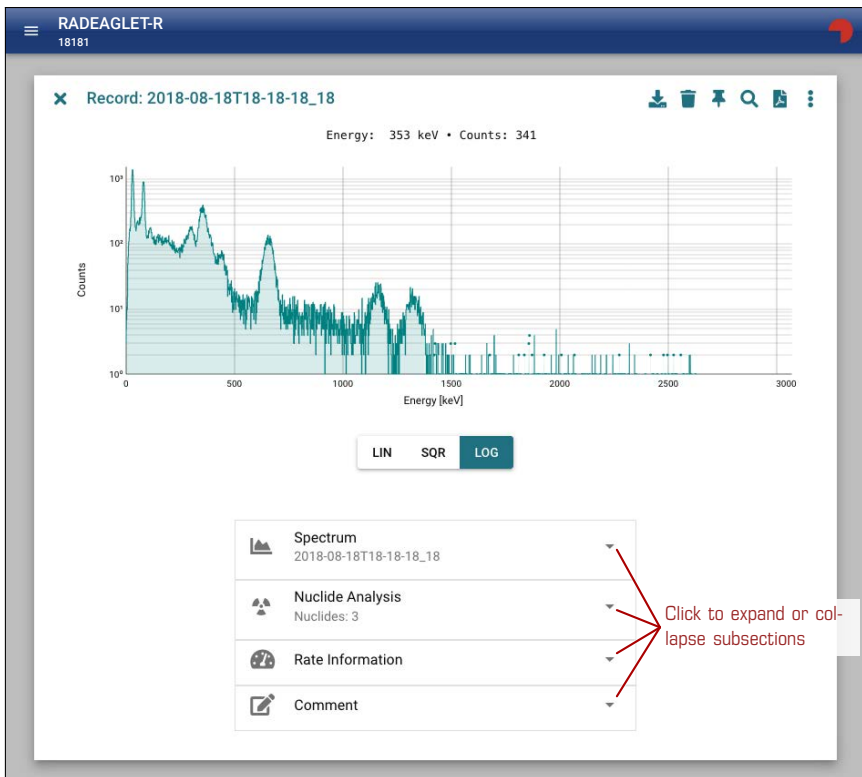
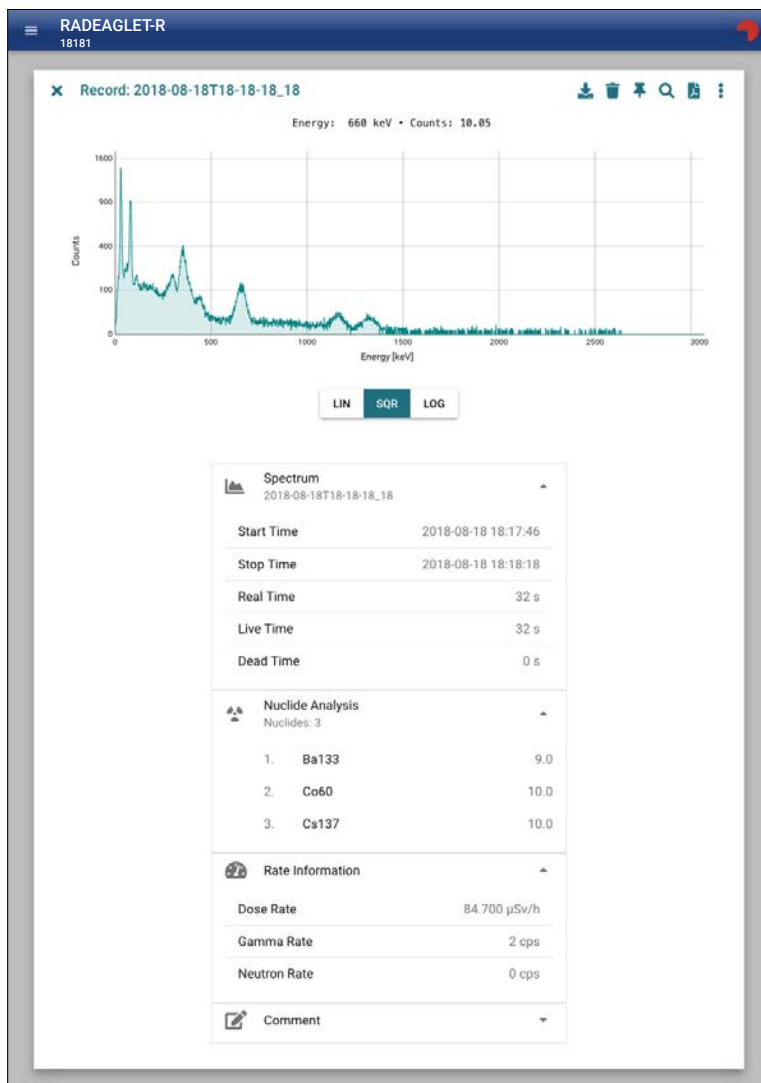

Figure 112: Spectrum with scaling methods and detail overview
Figure 113: Spectrum with expanded detail information
2. Click the triangles to expand or collapse subsections. (Fig. 112, p. 109, Fig. 113, p. 110).
The current scaling is accented below the diagram (Fig. 112, p. 109).